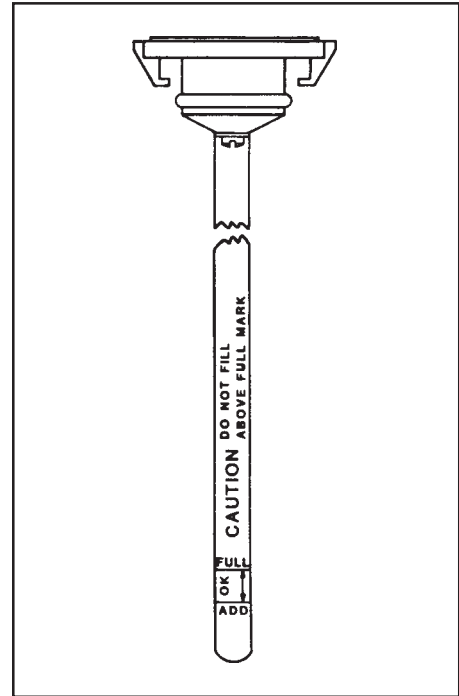

Figure 1
4. If the mark is below "OK", add oil. See figure 1.